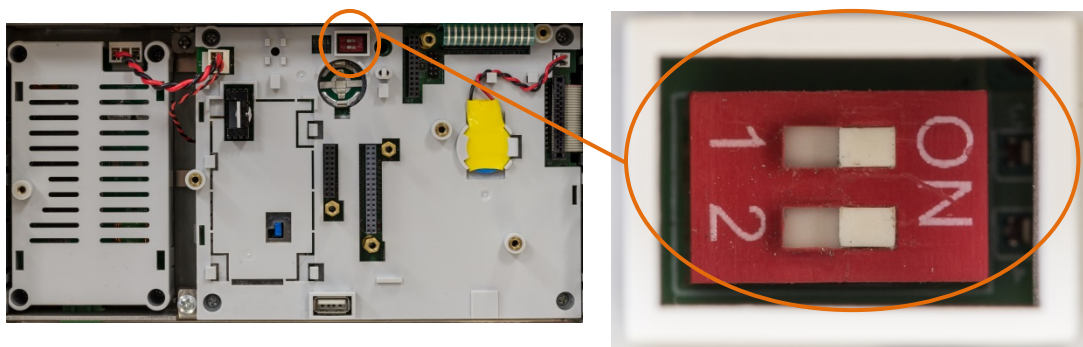

Figure 5-45: Metrology Switch Location
2. Place both switches SW1-1 and SW1-2 in the ON position, as shown in Figure 5-45.